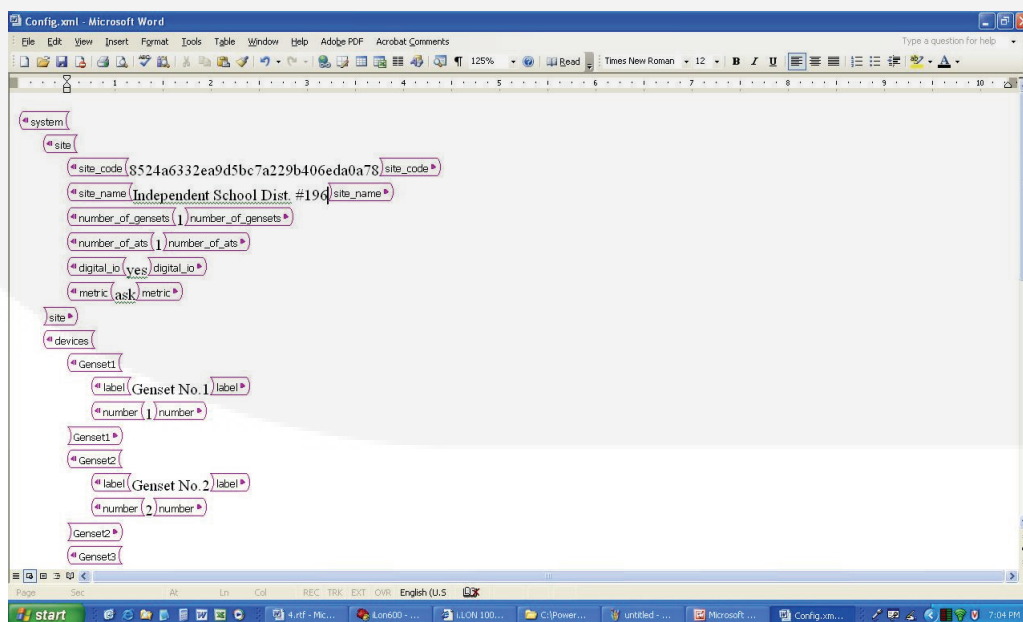

FIGURE 4-2. READY TO EDIT CONFIG.XML FILE
4. The word document will open (see Figure 4-2).
NOTE: If the document does not open as shown in Figure 4-2, or if you do not have Microsoft Word, the config.xml file can also be edited with either NotePad or WordPad. If you are not editing the file using one of these other